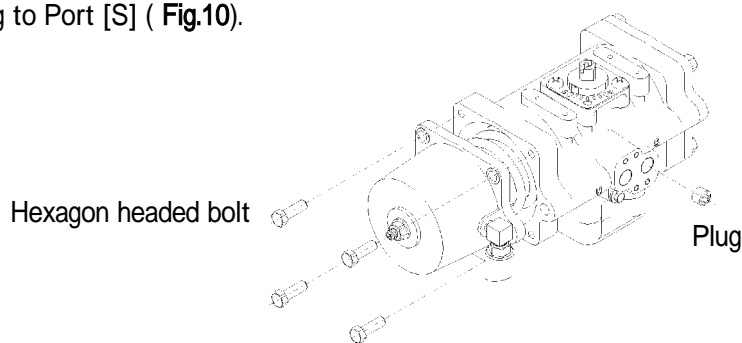

Fig.10
(3) Insert the spring cartridge unit into the end cover opening, and securely fix it with 4 hexagon headed bolts. (**Fig.10**).
(4) Put a plug to Port [S] (**Fig.10**).